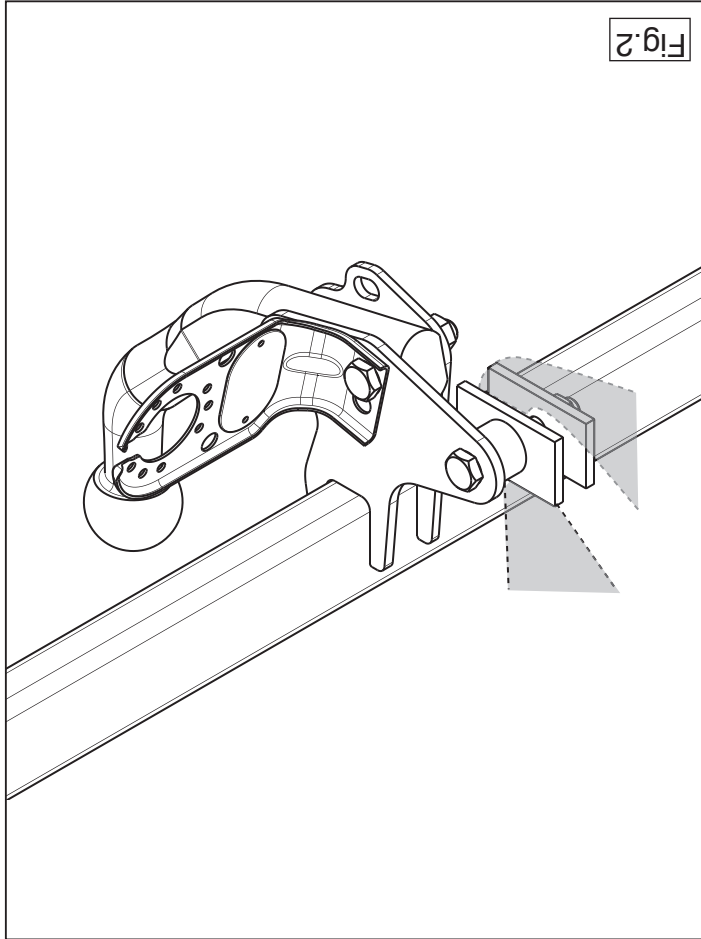

Fig.2
5. Monteer de dwarsbalk D in het midden aan de sleepoog (fig.2).
5. Fit the cross beam D centrally onto the towing eye (fig.2).
5. Den Querbalken D in der Mitte an der Schleppöse befestigen. (Abb. 2).